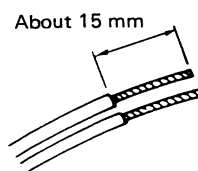

Fig. 32
2. Peel off the coverings so that the respective conductor tops appear by about 15 mm as shown in the Fig. 32.